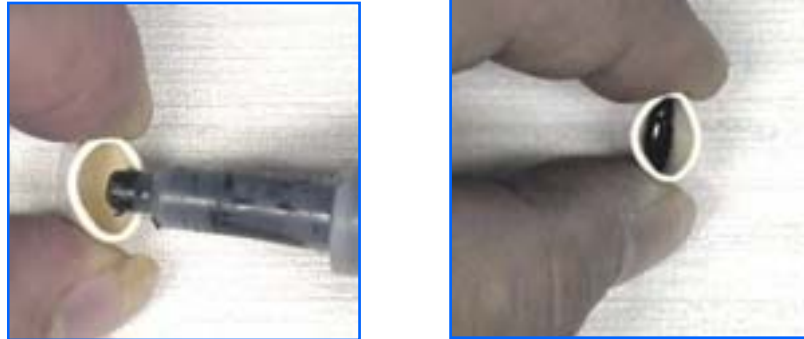

Figure 7 : Cap
- 2 Place a small amount of Loctite 480 in the cap and put the end of the cable in the cap. Refer to Figure 7.